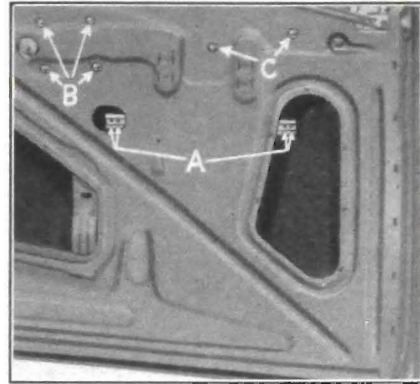

Fig. 1-67. Window Regulator Removal
- 3. Remove four door window lower sash channel cam screws, "A", Fig. 1-67.